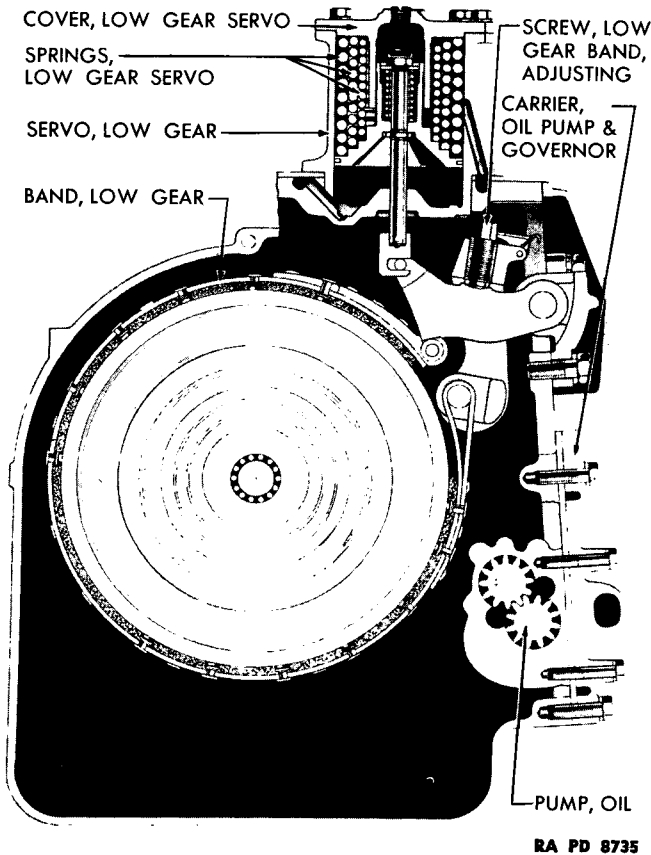

Figure 7 — Transfer Unit — Cross Section at Low Gear Servo
g. The servos which apply and release the two bands are mounted on the top of the main transfer unit case (figs. 7 and 8). The oil pumps and governor are mounted on a carrier located on the right-hand side of the unit, and the valves which control the shifting are mounted in a valve body on top of the unit.